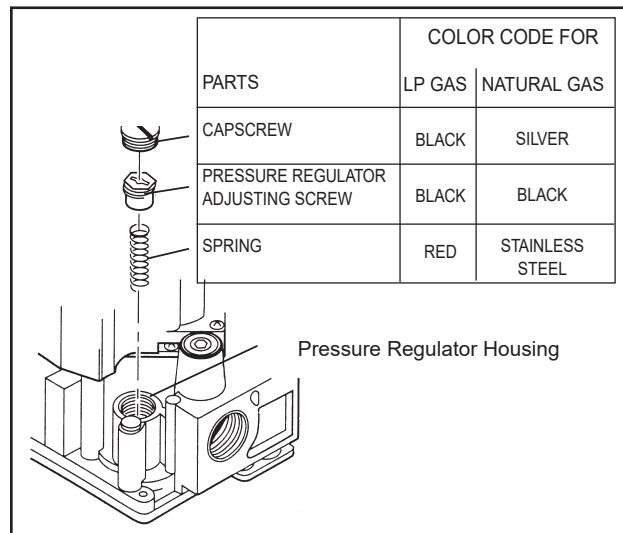

Figure 7 - Pressure Regulator
11. Remove regulator cap screw, pressure regulator adjustment screw and spring. (Refer to **Figure 7**.)
12. Install the replacement spring, supplied in the Natural Gas Conversion Kit. (Refer to **Figure 7**.)
23. Install the new cap screw. (Refer to **Figure 7**.)